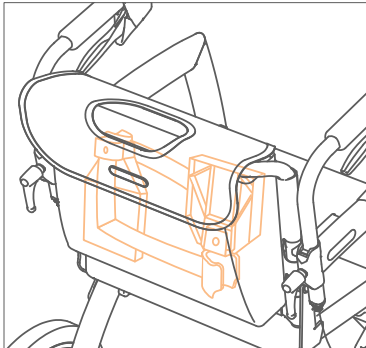

Figure 48: Storing footrests mirrored.
- a.** Remove the footrests. Slide the footrests up until released from the footrest holders. Put them back into the bag of the Rollz transport chair package, mirrored to each other (**Figure 48**).